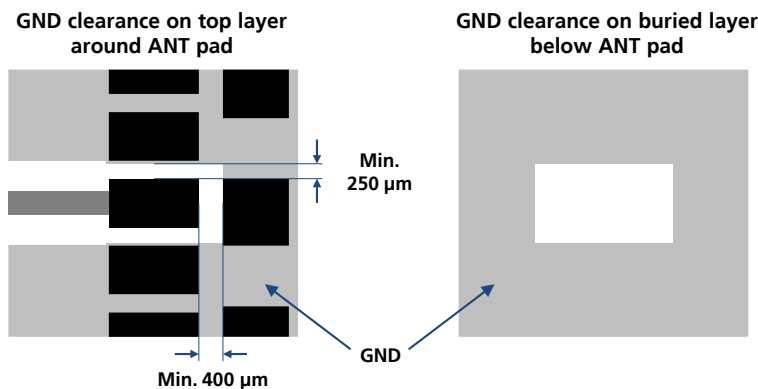

Figure 37: GND keep-out area on the top layer around ANT pad and on the very close buried layer below ANT pad
- Increase GND keep-out (i.e. clearance, a void area) around the **ANT** pad, on the top layer of the application PCB, to at least 250 μm up to adjacent pads metal definition and up to 400 μm on the area below the module, to reduce parasitic capacitance to ground, as described in the left picture in Figure 37
- Add GND keep-out (i.e. clearance, a void area) on the buried metal layer below the **ANT** pad if the top-layer to buried layer dielectric thickness is below 200 μm , to reduce parasitic capacitance to ground, as described in the right picture in Figure 37